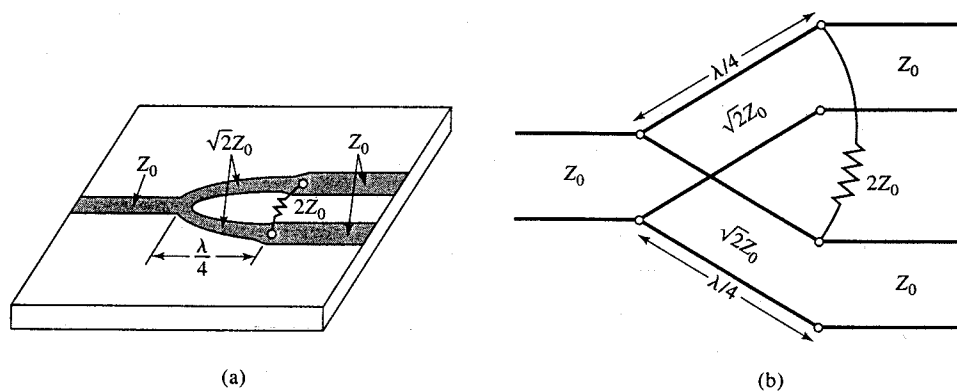
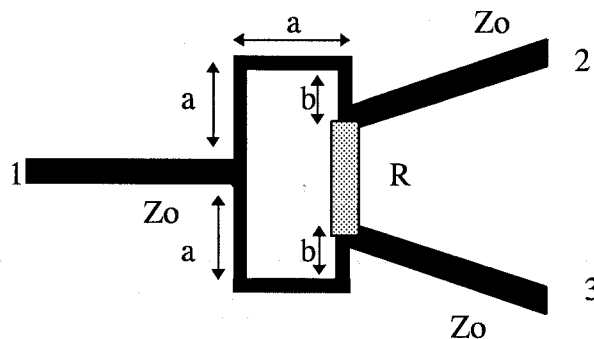

Figure 1
Figure 2
As shown in Fig. 1, the divider output fingers need to have a specific length and a given characteristic impedance. The design requirements for a good 3dB power divider are (a) equal power split between the output ports (b) matched ports and (c) good isolation between the output ports. To understand the importance of the good isolation between the output ports, imagine that the input power is to be equally split between two transistor amplifiers. Poor isolation between the output ports would mean that any reflections from one transistor will end up at the input of the other transistor with undesirable consequences.
Based on the above layout and the general diagram of Figure 1, design your Wilkinson divider using Puff at 1GHz. The I/O lines are at an impedance level of  $Z_0 = 50\Omega$ . The substrate has a relative permittivity of  $\epsilon_r = 4.0$  and a thickness  $h = 1.6\text{mm}$ . You should design the device so that the length  $a$  in Figure 2 corresponds to a phase shift of 35-degrees.
- Start by testing the S-parameters of the T-junction (i.e. without the resistor  $R$ ) using the scalar network analyzer. Referring to Figure 1, test  $S_{11}, S_{22}, S_{33}$  for matching, the power division  $S_{21}, S_{31}$  and the achieved isolation between the output ports  $S_{23}$ . Since the scalar network analyzer cannot test more than 2-ports at a time, use the provided  $50\Omega$  BNC loads for terminating the third port.
- Solder the resistor  $R$  in place as shown in Figure 2. Repeat the above measurements and record any differences that you may observe between the two sets of measurements.